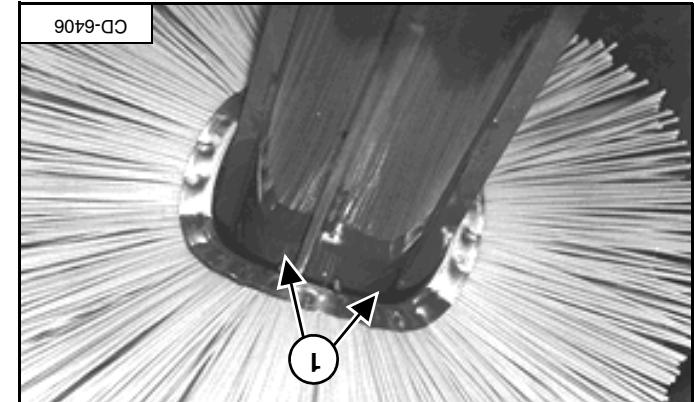

Figure 117
[Figure 117] straddle the bars on the rollers.
(Figure 117) straddle the bars on the rollers.
NOTE: The locking tabs (item 1) [Figure 117] are angled. Each bristle section must be installed so the tabs are angled toward the end with the two plates.